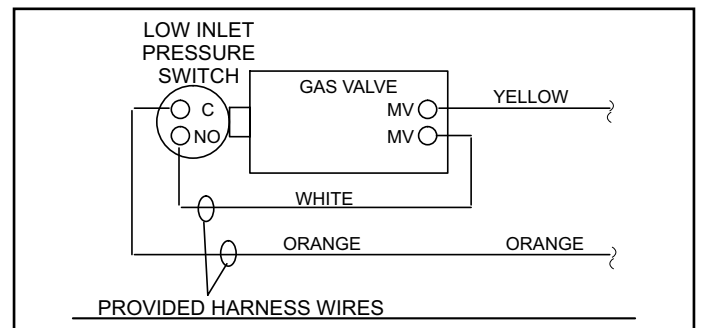

Figure 7. Low Inlet Pressure Switch Wiring Point-to-Point Wiring Diagram
11. Thread pressure switch to brass fitting 2 to 3 turns past hand tight, then wire as shown in Figure 7.